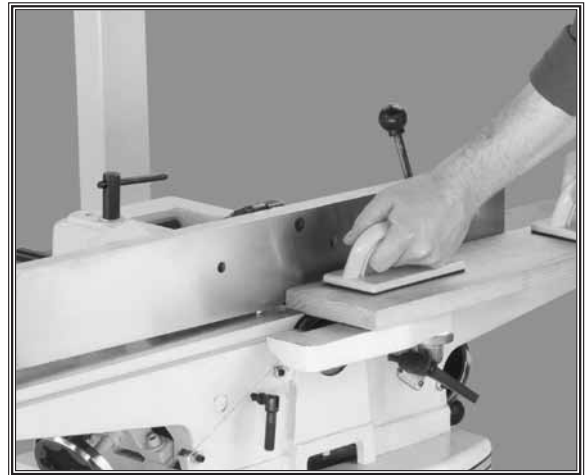

Figure 36. Typical rabbet cutting operation.
The purpose of rabbet cutting is to remove a section of the workpiece edge (see **Figures 36 & 37**). When combined with another rabbet cut edge, the rabbet joints create a simple, yet strong method of joining stock.
7. With a push block in each hand, press the workpiece against the table and fence (**Figure 36**) with firm pressure, and feed the workpiece over the cutterhead.